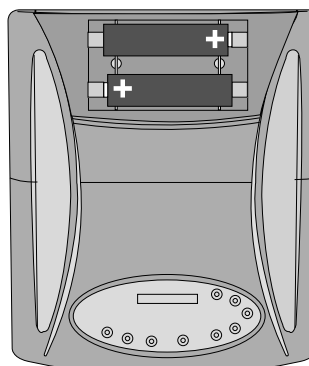

Figure 5
1. Insert the batteries with the anode (+) orientated as shown in Figure 5.